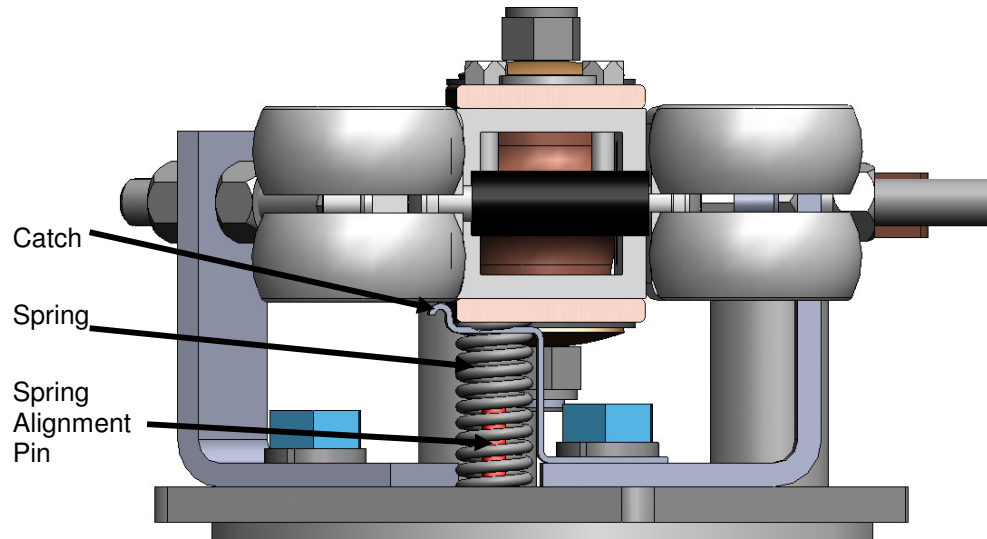

Figure 9: Female Blade Catch - Open Position
- 3.8.1. The spring must be directly beneath the catch and the catch fully engaged on the female blade assembly in the open position. A slight over travel by the female blade is permissible. Refer to **Figure 9**.